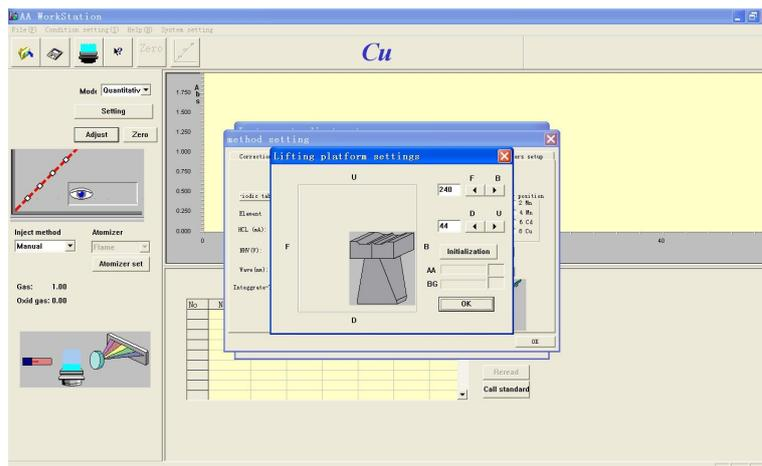

Figure 4-27
13. Press the "Lifting platform settings" button to display the "Lifting platform" dialog as shown in Figure 4-27. Press "◀", "▶", "▲" and "▼" buttons or directly enter the coordinates to adjust the position of the lifting platform. The range of forward and backward movement is 0~250, and the range of upward and downward movement is 0~250.